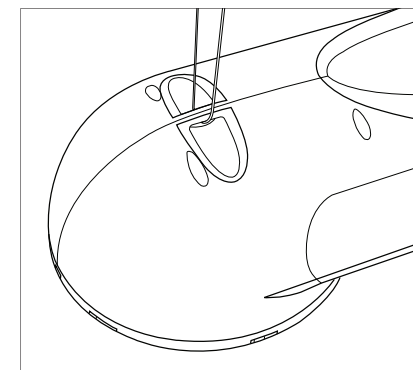

Figure 4. Attaching a safety wire.
8. A safety wire anchor is provided on the Rear Wave Control enclosure should you be required to secure the loudspeaker assembly to a roof beam or rafter (**Figure 4**).